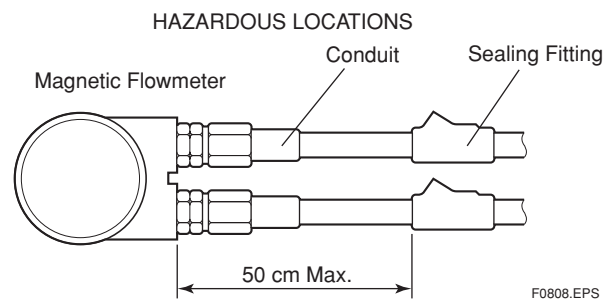

Figure 8.3 Conduit Wiring
- In hazardous location, wiring shall be in conduit as shown in Figure 8.3